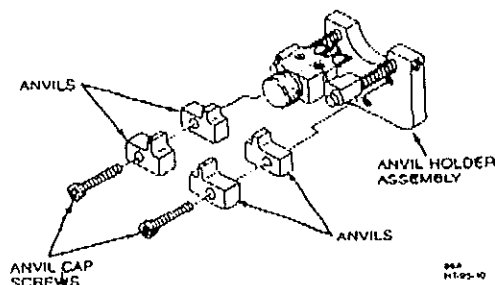

Figure 8
3. Remove the cap screw(s) and defective anvil(s) from the anvil holder assembly (see figure 8).